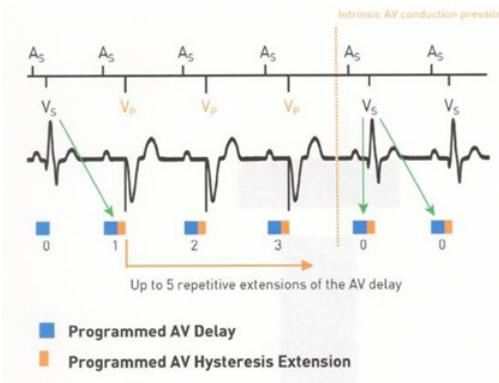

Figure 157: Repetitive Hysteresis
During a Repetitive Sequence (refer to Figure 157):
- Each Vs event will reset the repetitive counter and initiate the extended AV delay. (see green arrow in Figure 157)